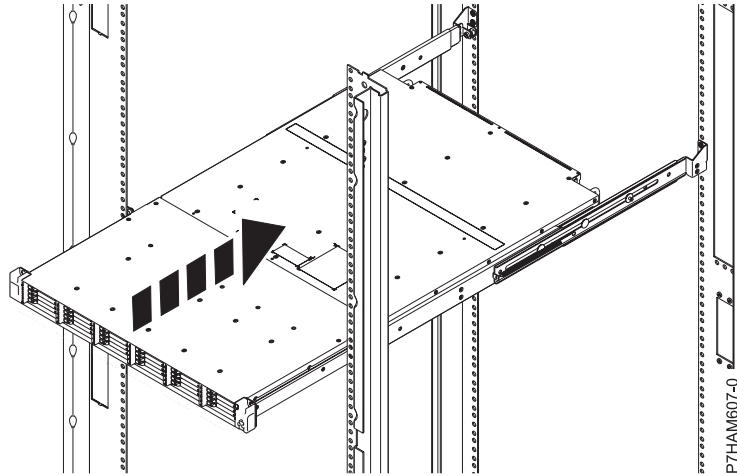

Figure 10. Sliding the disk drive enclosure into the rack
- d. When the chassis bracket guides are firmly seated on both sides of the enclosure, slide the enclosure gently into the rack cabinet, as shown in Figure 10.